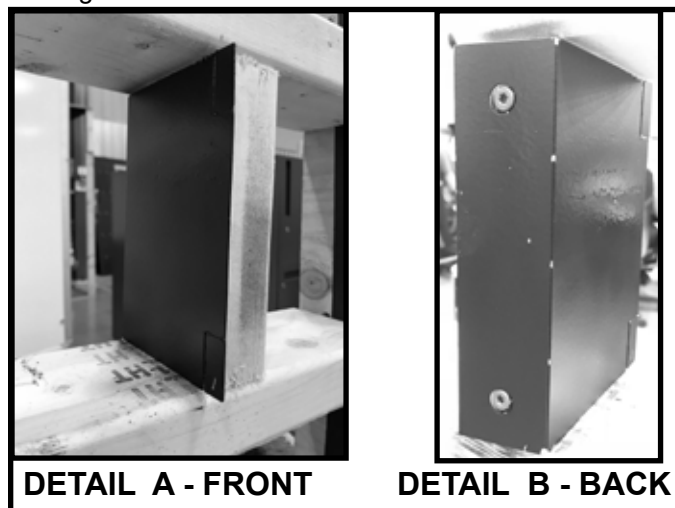

Figure 5.14 Finishing Trim Installed
11. Install the left and right finishing trim pieces on the framing on the sides of the discharge opening using construction screws or nails as shown in Figure 5.14, Detail A and B. Notice that the screws are installed on the back side of the framing. See Figure 5.14 and Figure 5.29.